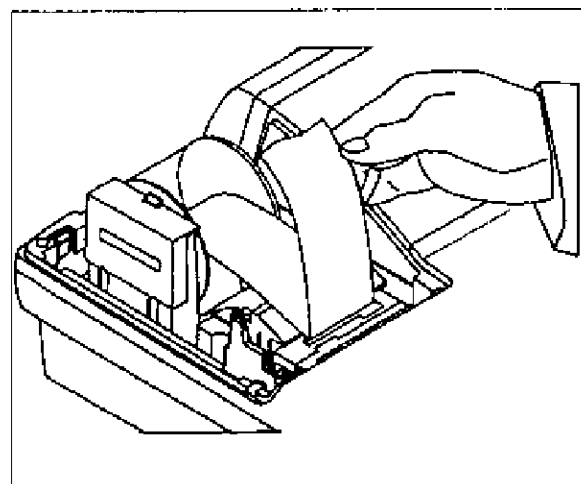

Fig.7
5. Press and hold the **FEED** key until about 30 cm of the paper comes out from the printer. (See Fig.7.).
6. Insert the end of the paper into the slot in the take-up reel and wind two or three turns of paper around the reel. (See Fig.7.).